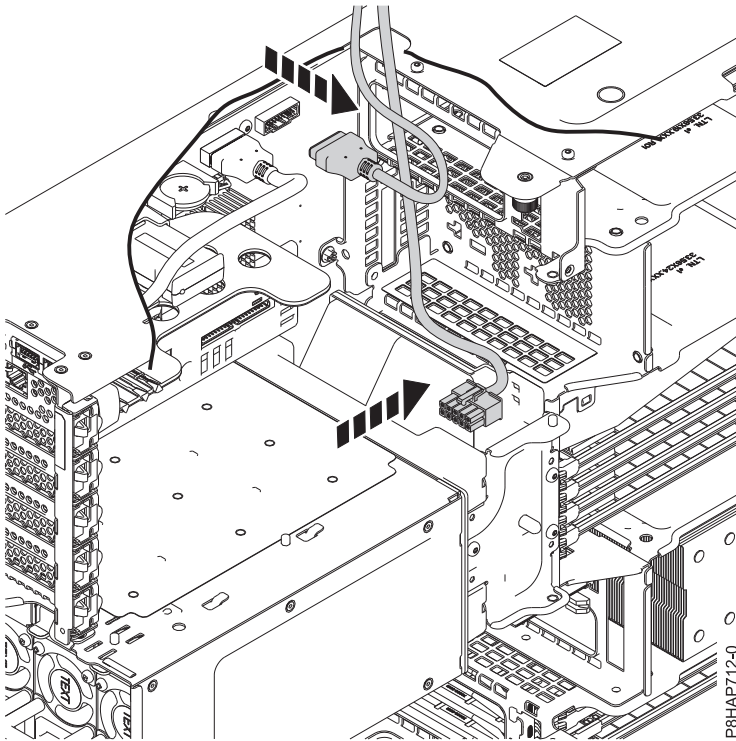

Figure 67. Disconnecting the internal RDX docking station (FC EUA3) USB and power supply cables from the system planar
5. Disconnect the internal RDX docking station (FC EUA3) power supply cable from the system planar. See Figure 67.